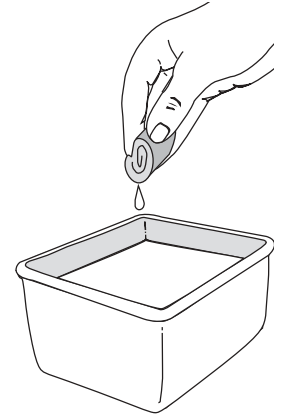

Fig. 62
3. Wash the filter in detergent and water (Fig. 62). Rinse the filter thoroughly. Squeeze out excess water. Allow it to dry completely.